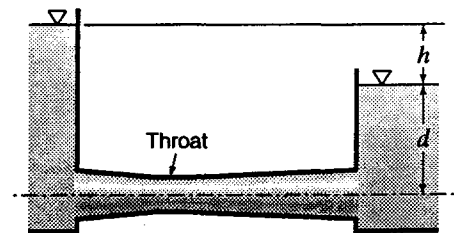

Figure P5.26
5.27 Referring to Fig. P5.26, assume water is flowing and neglect all head losses except at discharge. Find the flow rate if $h = 1.6$ m. Assuming that $d = 4$ m, the throat diameter is two-thirds the pipe diameter where it joins the downstream tank, and the atmospheric pressure is equal to the standard atmospheric pressure at 2000 m elevation, calculate the gage pressure and the absolute pressure in the constriction. The throat diameter is 360 mm.